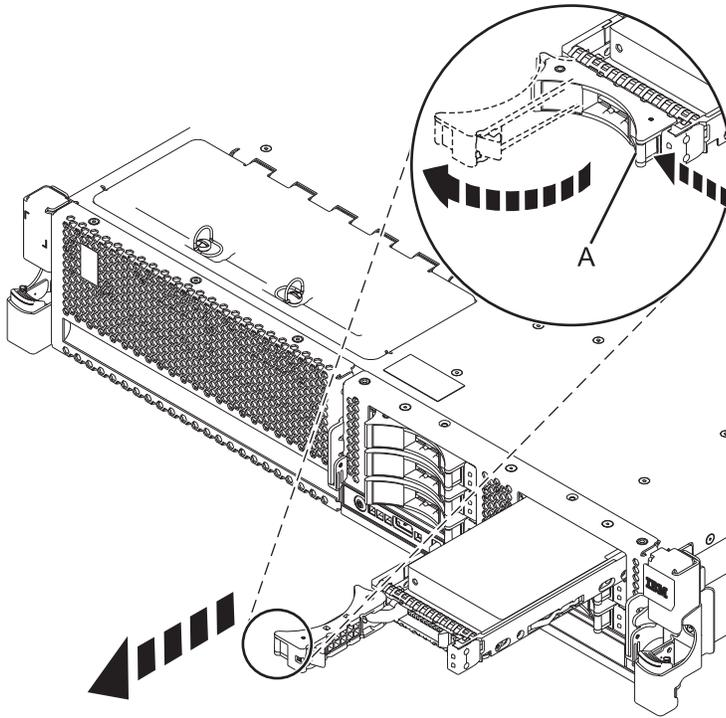

Figure 16. Removing a disk drive from the 8231-E2B, 8231-E1C, or 8231-E2C
1. Unlock the disk drive handle by squeezing it and pulling it out toward you, as shown in Figure 16 on page 40.